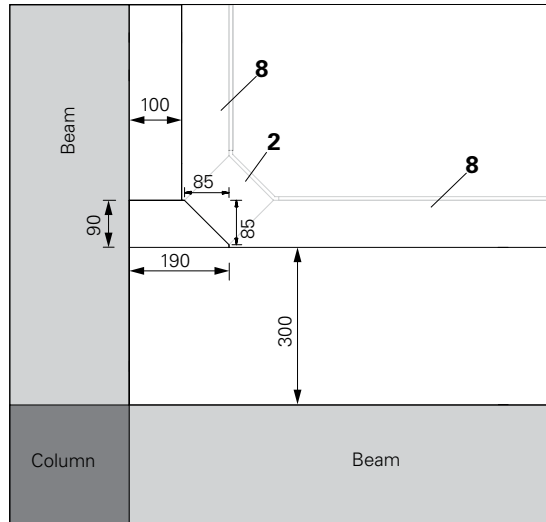
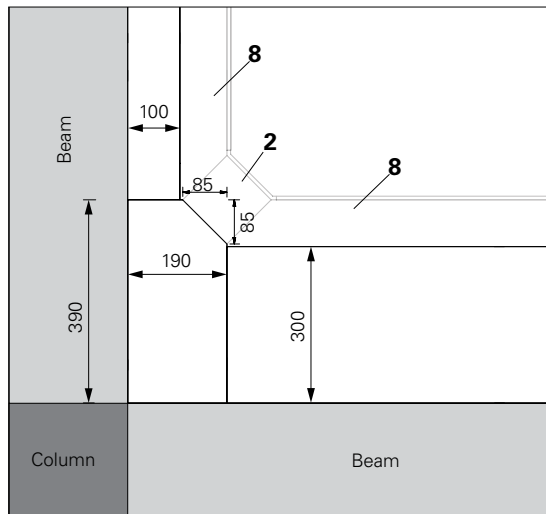

Fig. A6.17
Fig. A6.18
1. Cut infill plywood of suitable sizes as per plywood cutting option 1 or 2. (Fig. A6.17 + Fig. A6.18)
4. Erect the prop (3) attached with drophead (2) and timber block (23) near to the beam corner (distance varies according to the infill area. e.g. 300 mm). (Fig. A6.17 + Fig. A6.18) (alternatively timber block (23) can be installed from top)
6. Now, hook the filler beam ADF (8) on the flyplate pin and swing it using shuttering aid.